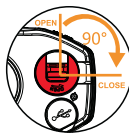
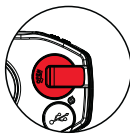

Figure 4
Figure 5
3. After the battery is installed, press down on the battery cover and rotate it 90° clockwise, as shown in Figure 4. Then press down on the rotating handle, as shown in Figure 5.